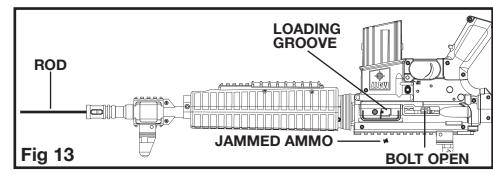

Fig 13
- While pointing in SAFE DIRECTION, hold the gun in the position shown in Figure 13.
- Your airgun will maintain proper function longer if you oil it every 250 shots. Put one drop of Crosman 0241 Pellgunoil® (available at crosman.com) on the pump pivot pins and the pump cup in the pump mechanism. (Fig 13) DO NOT use petroleum distillate based oil or solvent and DO NOT over-oil as this can cause damage to your gun.